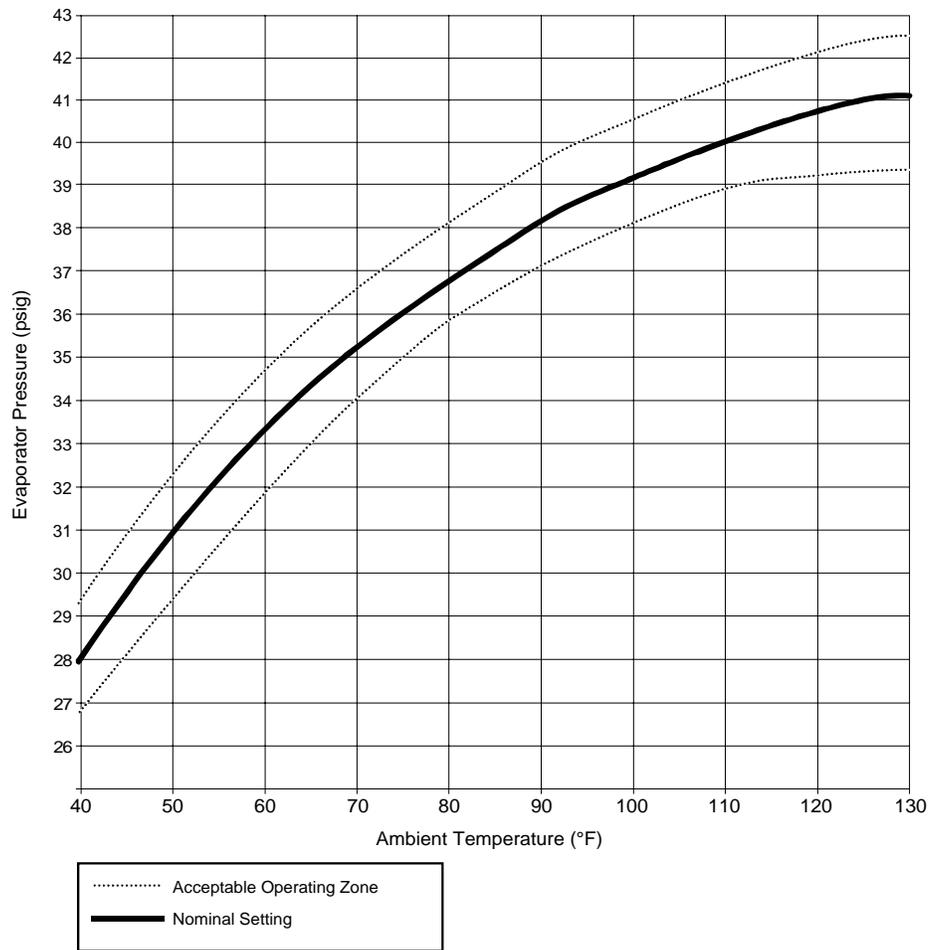

Figure 5: Evaporator Pressure vs. Ambient Temperature (Sea Level--No Load Condition)
Using the corrected no load evaporator pressure gauge reading and current ambient temperature, refer to the graph in Figure 5 to determine if the evaporator pressure is at the proper setting. If the value is within the acceptable operating zone as shown on the graph, then no further adjustments are necessary. If the value is **not** within the acceptable operating zone, then it will be necessary to adjust the expansion valve. Refer to the *Refrigeration Service* section and follow Steps 1 through 5 (readjusting the expansion valve setting) to properly adjust the expansion valve until the evaporator pressure gauge is at the adjusted pressure.
If the air dryer is installed in high altitudes, the expansion valve will have to be adjusted to compensate for the new ambient pressure. For altitudes from 1500 to 5000 ft, increase the expansion valve setting by 2.5 psig (17.5 kPa), and for altitudes over 5000 ft, increase the expansion valve setting by 4.0 psig (28 kPa). This increase in evaporator pressure must be added to the value determined by the graph in Figure 5 to account for altitude effects. Refer to the *Refrigeration Service* section and follow Steps 1 through 5 (readjusting the expansion valve setting) to properly adjust the expansion valve until the evaporator pressure gauge is at the adjusted pressure.
If the air dryer is used in ambient conditions between 35 and 40°F (2 and 4°C) the expansion valve must be adjusted to increase the expansion valve gauge pressure by 3 psig (21 kPa) to offset a possible freeze-up condition. This increase in evaporator pressure must be added to the value determined by the graph in Figure 5 to account for low ambient temperature effects. At high altitudes and low ambient temperatures, it will be necessary to add both pressure corrections and readjust the expansion valve. Refer to the *Refrigeration Service* section and follow Steps 1 through 5 (readjusting the expansion valve setting) to properly adjust the expansion valve until the evaporator pressure is at the adjusted pressure. Operation of the A-4400 in ambient temperatures below 35°F (2°C) is not recommended.
The A-4400 is factory set to follow the Evaporator Pressure vs. Ambient Temperature curve illustrated in Figure 5. If at no load, the evaporator pressure rises above the acceptable operating zone, one or more of the following conditions may exist.
If the evaporator pressure is below the acceptable operating zone (refer to Figure 5) then either the expansion valve is out of adjustment or the refrigerant charge is low.
4. Turn the expansion valve adjusting screw to provide an evaporator pressure that corresponds to the ambient temperature determined in Figure 5. Turning the screw clockwise increases the pressure; counterclockwise decreases the pressure. **One complete revolution (360 degrees) equals a pressure change of approximately 10.5 psi (73.5 kPa).**
8. If the evaporator pressure (gauge reading plus correction) does not return to normal as illustrated in Figure 5, adjust the expansion valve as described in the *Refrigeration Service* section.